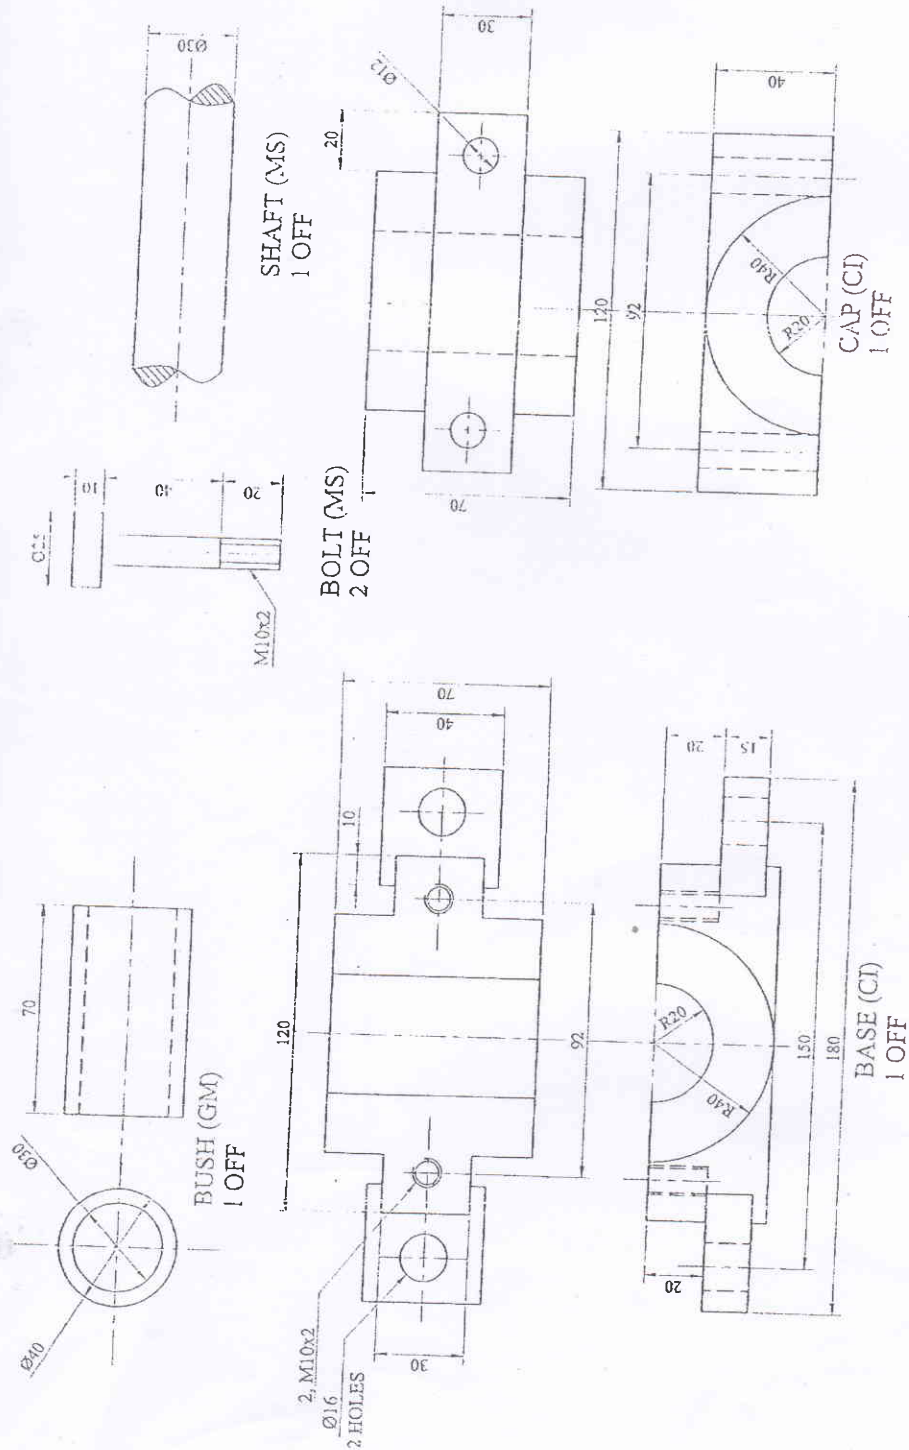

Figure 5
5. Draw the assembled sectional front view from the detail drawing in figure 5 (attach with Question) [15]